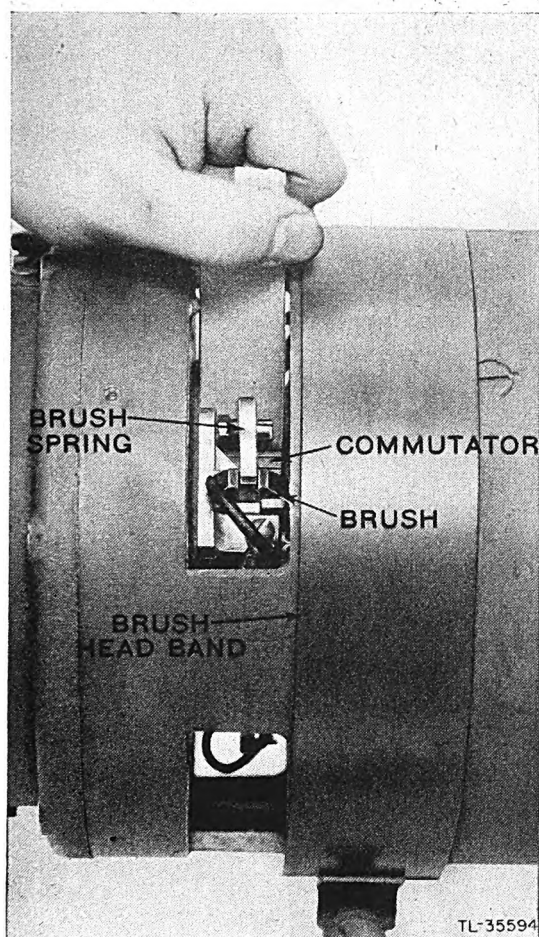

Figure 3. Cleaning commutator.
- (1) Loosen the headband screw under the brush headband (fig. 3) and slide the band over to the side to expose the commutator and brush assembly.
- (2) Attach a piece of canvas to a suitable piece of wood. Place the canvas on the commutator while running the generator. If the canvas cleaning does not remove the dirt, use dry-cleaning solvent (SD). If the commutator is scored, place a piece of #00 sandpaper over a piece of wood and, while the generator is running, place the sandpaper on the copper segments with a slight pressure. Move the sandpaper from side to side until the commutator is smooth and clean. Finish up with the canvas cloth on the wooden stick. If the sandpaper does not remove the grooves or scoring, the commutator may have to be turned down on a lathe.